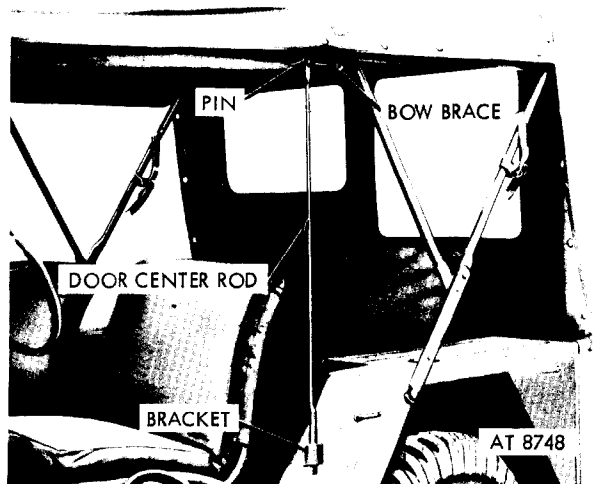

Figure 4-13. Installing the door center rods.
*i.* Install door center rods in brackets on body of the vehicle with pin on top, as illustrated by figure 4-13.